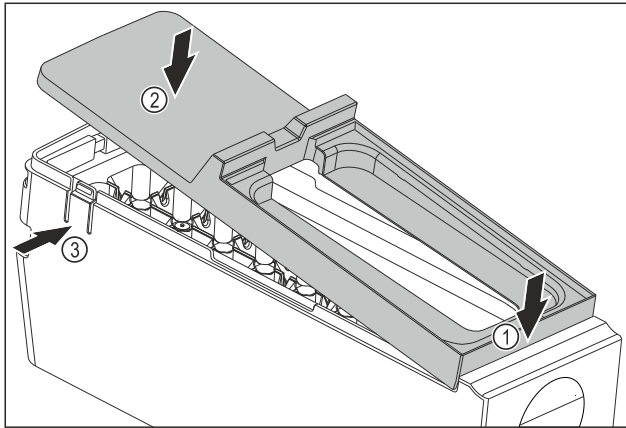

Fig. 144
- ▶ Installing the EasyTwist-Ice body cover: Place the cover on the front. Fig. 144 (1)
- ▶ Lower the cover at the rear. Fig. 144 (2)
- ▶ The cover locks into both tabs Fig. 144 (3) audibly.